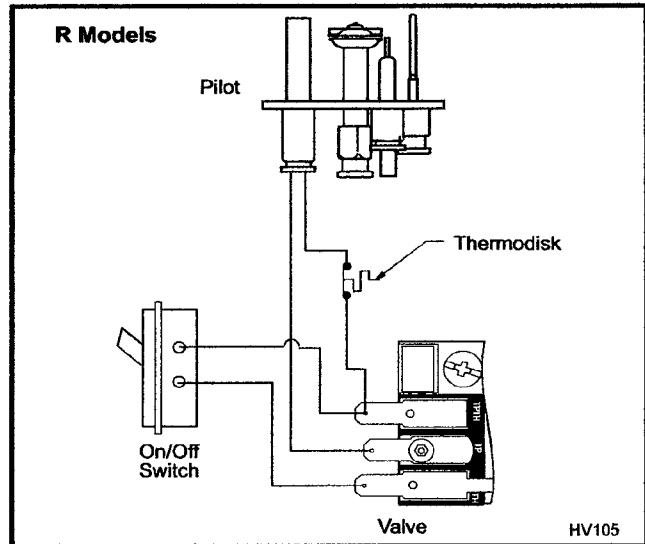

Fig. 7 Remote switch wiring for R-Models.
3. Connect wiring to gas valve. Refer to Figure 7 or 8 and follow the appropriate diagram.